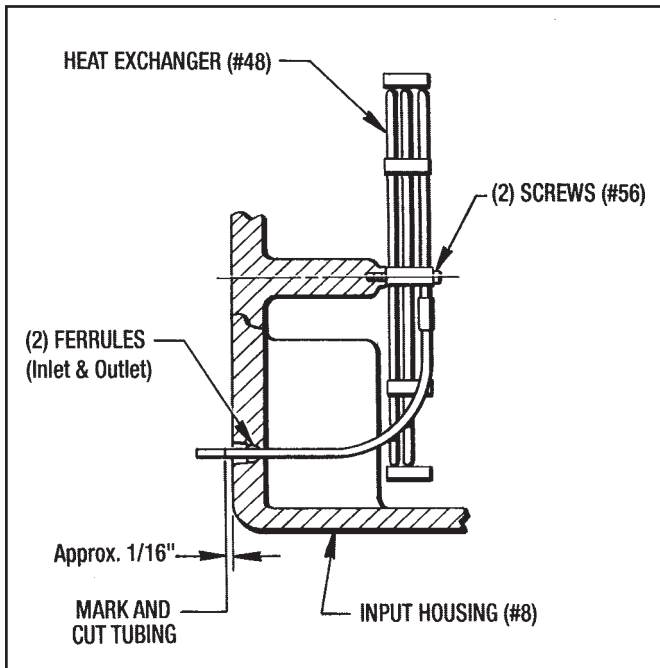

Figure 9.3 - Installing Water Cooled Heat Exchanger
9-3 INSTALLING WATER COOLED HEAT EXCHANGER (See Figures 9.3 and 10.4)
1. Guide the Heat Exchanger (#48) into the Input Housing, making sure that the tube ends project out the (2) holes in the rear face of the Housing. Attach with (2) Screws (#56).
2. Mark the tubing approximately 1/16" beyond the face of the housing. (See Figure 9.3).
4. Reinstall the Heat Exchanger back into the Housing. Apply Loctite #271 to the tubing O.D. Then place the (2) Compression Fittings with Ferrules (#71) on the tubing. (See Figure 9.3).